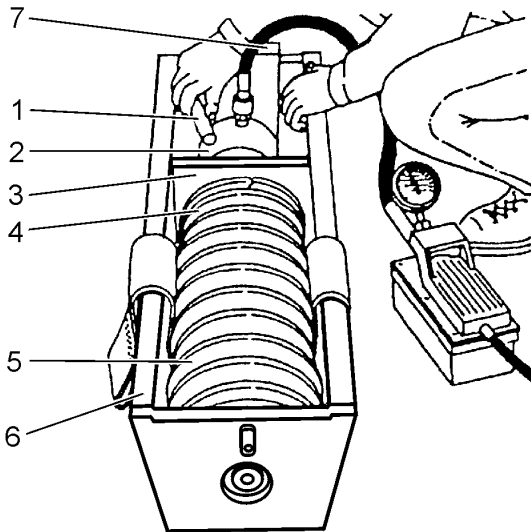

Fig. 14.55. Spring Reassembling
2. Position slide plate (3, Fig. 14.55) up against rear spring seat (4). Install ram (2) with adequate blocking to center with spring. Compress spring (5) and install four short spacers (1) at each corner of coffin (6). Let off on ram so sliding plate bottoms on spacers. Place suitable blocking (7) behind ram (2). Compress spring (5) to allow removal of short spacers (1). Continue to compress spring and install four long spacers at each corner of coffin (6). Let off ram so sliding plate (3) bottoms on spacers.